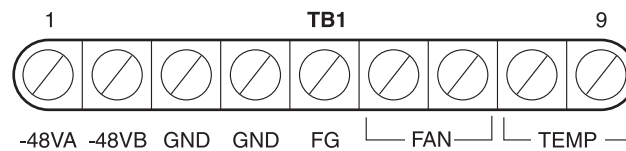

Figure 5. Terminal Strip TB1
- 4 Connect the power and optional fan inputs to TB1 as shown in Figure 5. Slots 1 through 11 are powered by the -48VA bus, and slots 12 through 22 are powered by the -48VB bus. The two GND terminals are tied together. The HMU-319 is diode-OR'ed to both power busses, to guard against power failure in the event that one supply is lost.